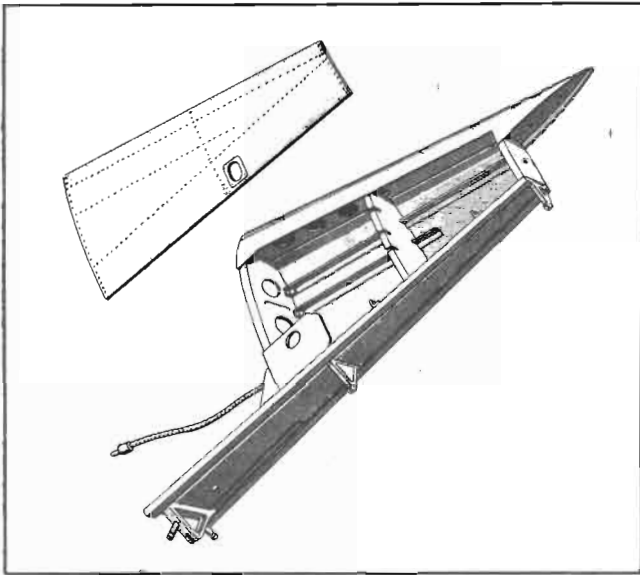

Figure 80 — Fin Structure
(1) DESCRIPTION.—(See figures 80 and 81.)—The fin is a full cantilever non-adjustable structure formed from 24ST Alclad sheet and 24ST formed sections with a permanent setting of 1, 45, to the left of the longitudinal axis of the airplane. It consists of a front and rear spar, pressed-flanged ribs with stiffening intercostals, and a smooth metal covering. The rear spar is the main load-bearing member of the structure and has U-flanges formed along its length. The flush riveted leading edge and both spot-welded side skins are .040 and 0.25 inch thick, respectively. The heavier metal provides extra protection for the leading edge. The mounting of the structure is simple. Two bolts secure the rear spar to the fuselage bulkhead; two bolts and a fitting secure the front spar to the fuselage tripod assembly. Frosted white navigation lights are installed on both sides of the structure.